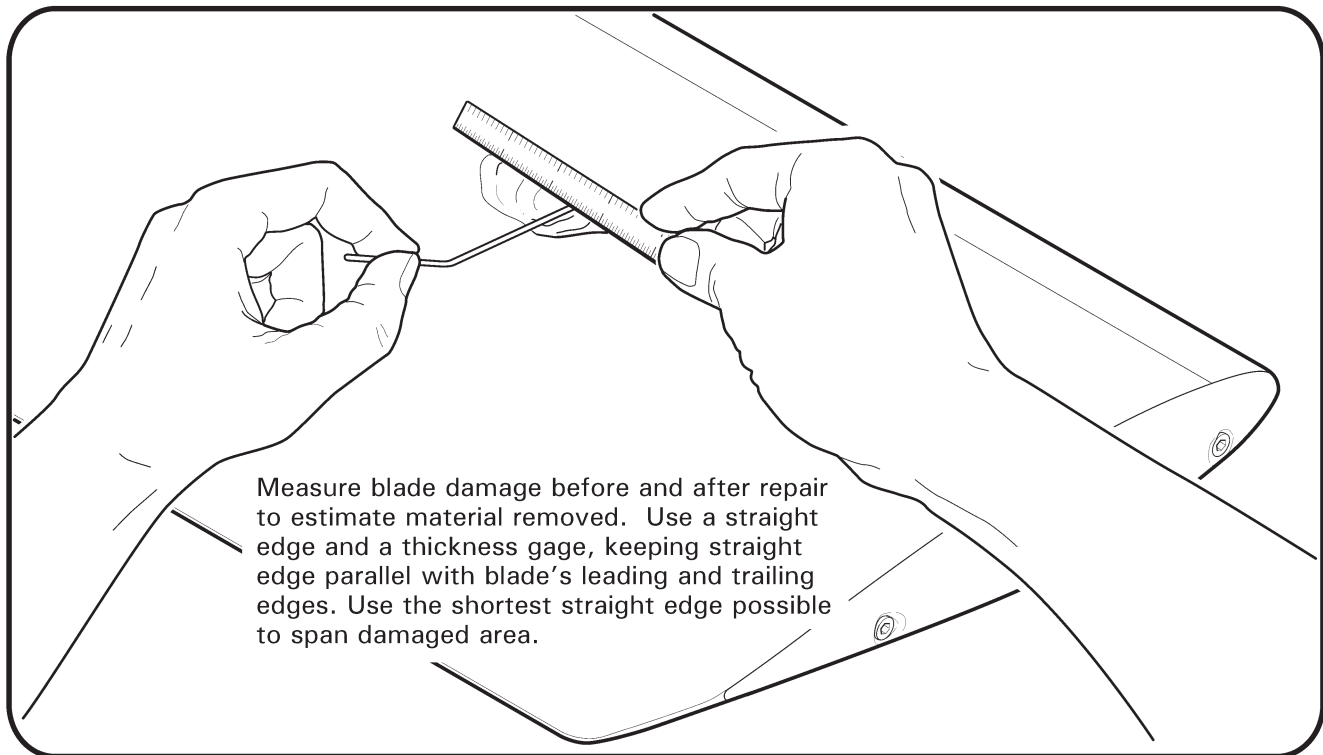

FIGURE 62-9 MEASURING MAIN ROTOR BLADE DAMAGE
1. Refer to Figure 62-9. Measure blade damage using a straight edge and a thickness gage. Keep straight edge parallel with the leading and trailing edges.